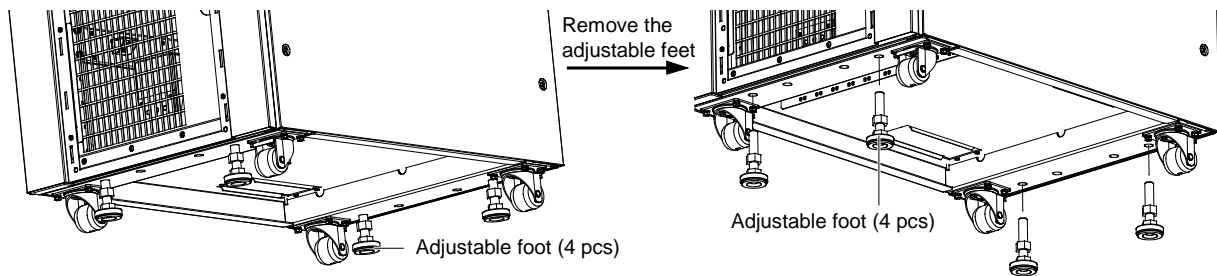

Figure 8-9 Removing adjustable feet
1. Lift up the UPS cabinet and remove the four adjustable feet on the bottom, as shown in Figure 8-9.